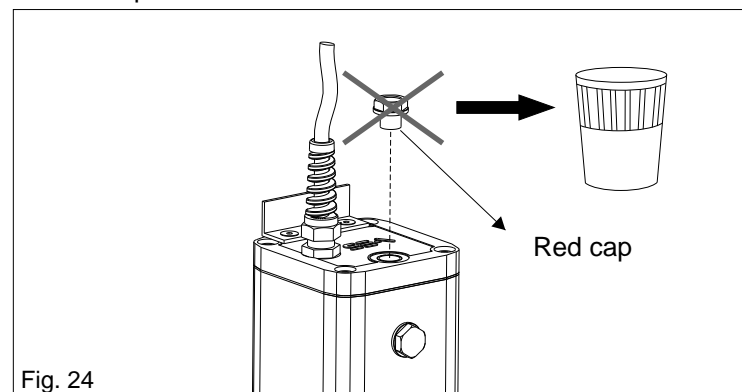

Fig. 24
6. BLEED CAP REPLACEMENT (Fig.24)